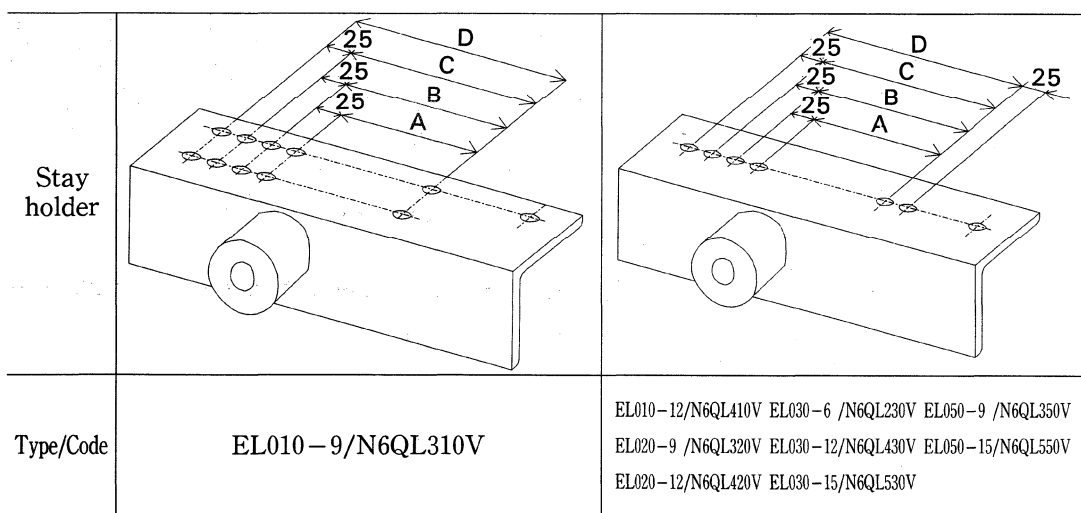

Fig. 10
The stay holder can be used as is. The stay holders are holed as they are to assemble with end carriage according to travel rail width (T) (Refer to Fig. 10). Assemble end carriage frame based on travel rail width determined.